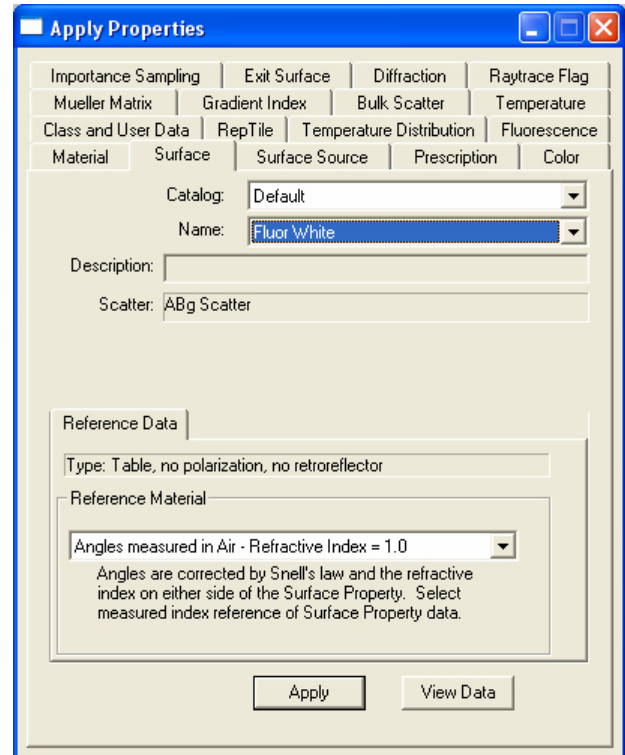

Figure 10. Apply properties for Fluor White.
8. Enter the parameters as shown in Fig. 10,